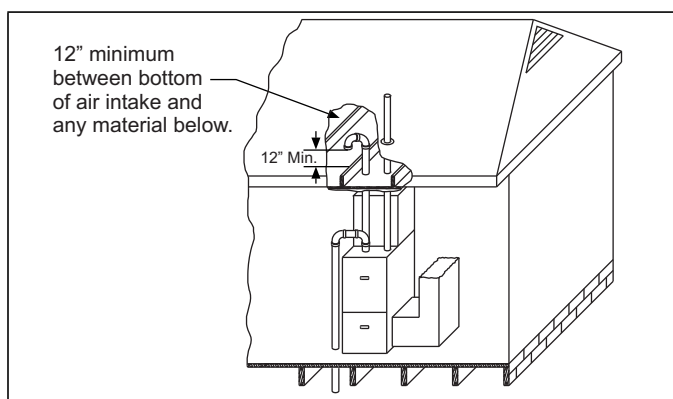

FIGURE 34: Attic and Crawl Space Combustion Air Termination
3. **VENTILATED COMBUSTION AIR:** Combustion air is supplied through a PVC or ABS pipe that is connected to the PVC coupling attached to the burner box and is terminated in a ventilated attic or crawl space. The combustion air and the vent pipes are not terminated in the same atmospheric zone. Refer to Figure 34 for attic and crawl space termination. Only the combustion air intake may terminate in the attic. The vent must terminate outside.
Refer to Figure 34 for required attic termination for the combustion air intake pipe. For attic termination, use two 90 degree elbows with the open end in a downward position. Be sure to maintain 12" (30.5 cm) clearance above any insulation, flooring or other material.